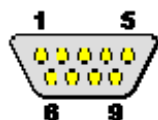

Figure 4-30: Serial Communications Connector Pinout Locations
- CN Pinouts:** See **Figure 4-30** and **Table 4-29**